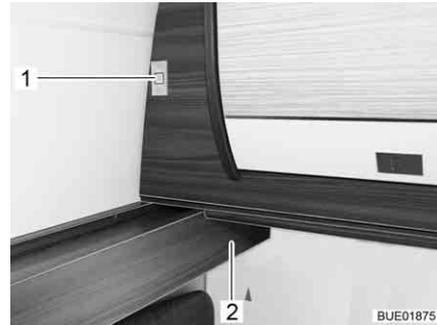

Fig. 87 Release
- Push the push button (Fig. 87,1). The push button jumps out.
- Hold the push button and swing down the folding bed in cabinet until it is resting on the side supports (Fig. 87,2).